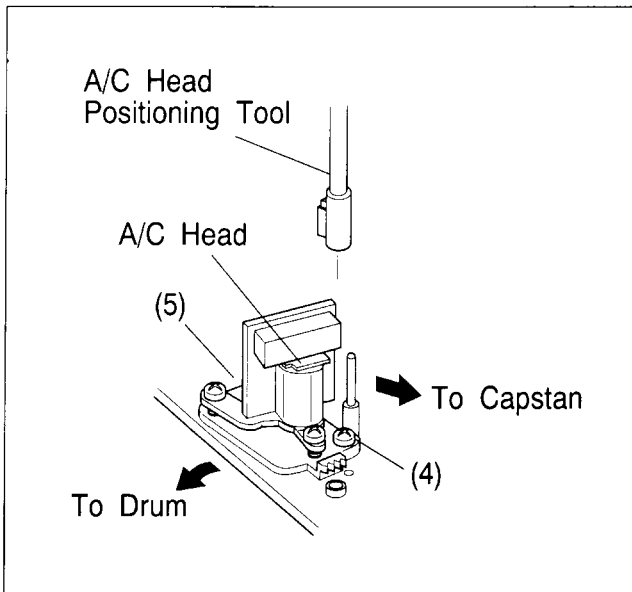

Fig. 2-7-6
- (1) Connect the oscilloscope to TP106(PB FM) on the Main board. Use TP111(D.FF) on the Main board as a trigger.
- (2) Playback the SP stairstep portion of the alignment tape.
- (3) Set the neutral manual tracking position by simultaneously pressing the CH " + " and " - " buttons.
- (4) If adjustment is required, slightly loosen screws (4) and (5). Set A/C head positioning tool on the A/C head adjusting boss as indicated in Fig.2-7-6.